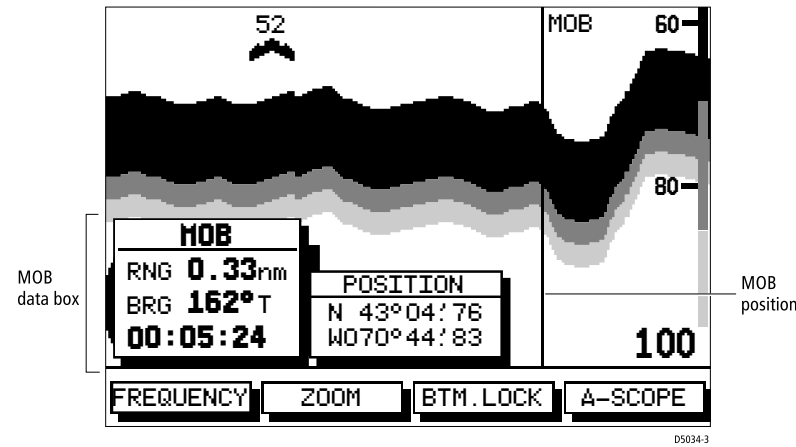

Figure 4-4: MOB Display
- Displays the MOB data box, showing the bearing and distance from your vessel to the MOB waypoint position, and the elapsed time since the MOB was initiated (*Figure 4-4*).